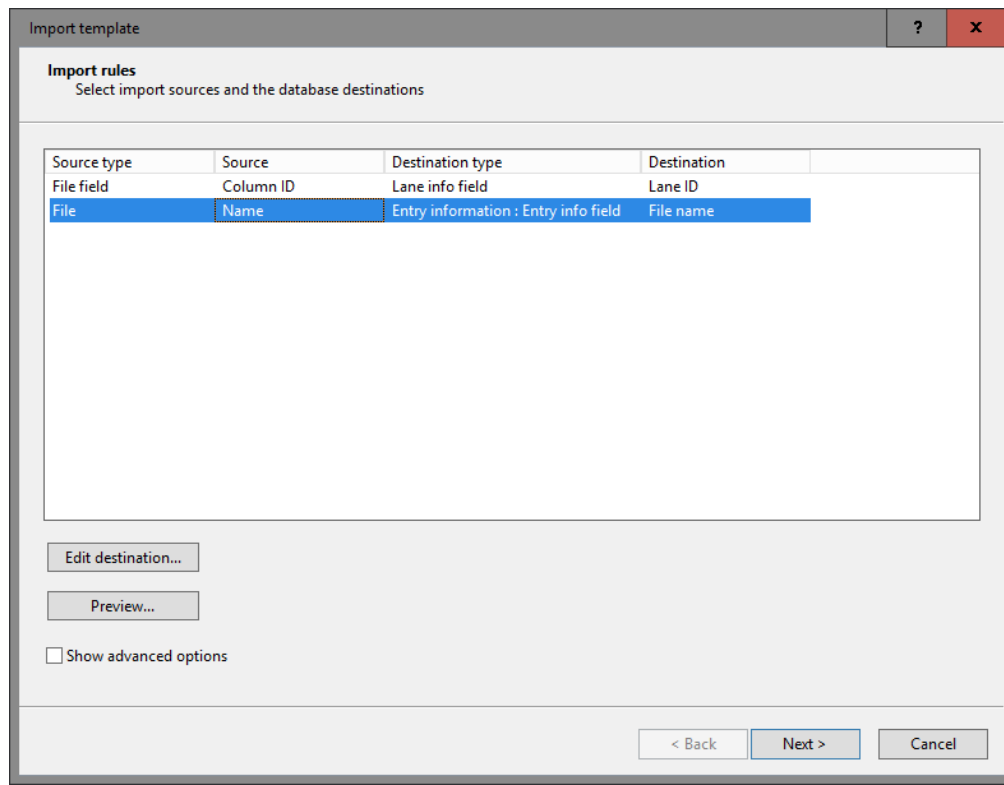

Figure 2.9: Import template.
- 3.4 Specify a *destination* for one or more selected rows by pressing the **<Edit destination>** button or by double-clicking (see Figure 2.9 for an example).